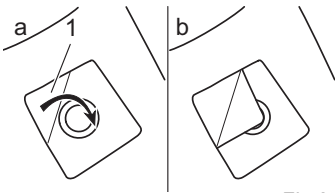

Fig. 21
6. You can close the dust filter bag using the corner (Fig. 21/1) so that no dust escapes from it during transport.